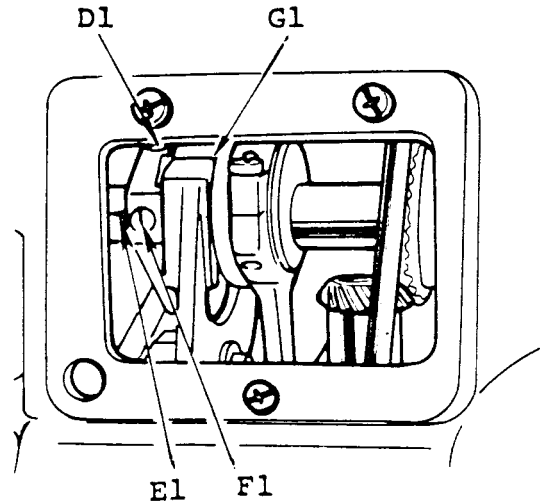

Fig. 12
Loosen three screws and remove arm side cover. Turn hand wheel over toward you until needle bar is at its highest position. Screw F1, facing outward as shown in Fig. 12, is the timing screw.
Before the machine leaves the factory, the feed and feed lifting eccentric G1, Fig. 12 is correctly set for average sewing conditions by having the timing screw F1 securely tightened over the timing line E1, Fig. 12 on the arm shaft (horizontal).
1. Loosen screws D1 and F1, Fig. 12, in feed and feed lifting eccentric.